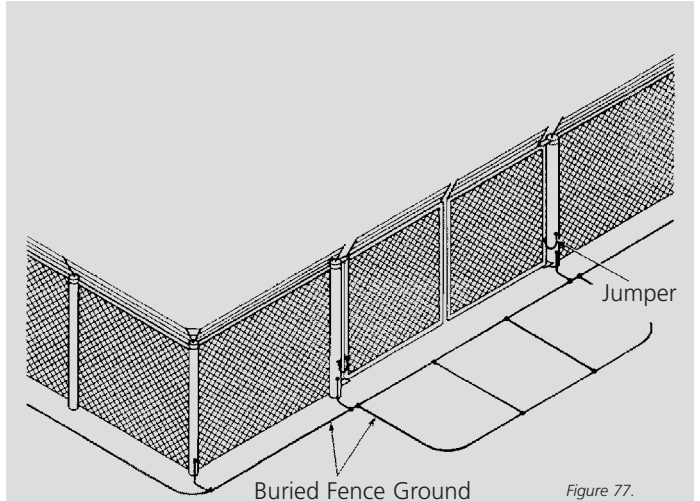

Figure 77.
1. Fences shall be grounded at each side of the gate or other opening. (See Figure 77.)
2. Gates shall be bonded to the grounding conductor, jumper of fence. (See Figure 77.)
3. A buried bonding jumper shall be used to bond across the gate or other opening in the fence, unless a nonconducting fence section is used. (See Figure 77.)
A second conductor, although not required by NESC, offers personnel protection if installed under the gate swing area as shown in Figure 77. It is also common practice to connect the ground to all fence corner posts and to the line posts every 50 feet.